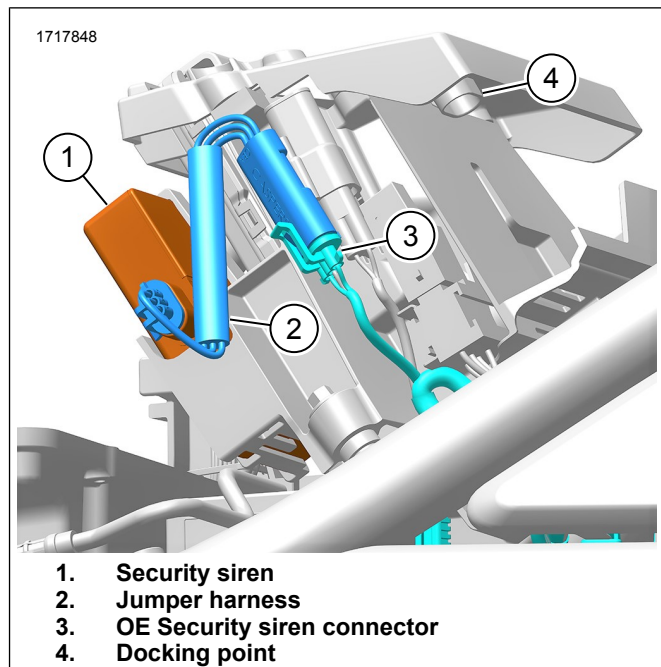

Figure 30. Nightster (RH975/S)
6. See Figure 30. Install security siren (1) into BCM caddy.
7. Remove OE security siren connector (3) from docking point (4).
8. Connect jumper harness (2) to:
- a. OE security siren connector (3).
- b. Security siren connector (1).